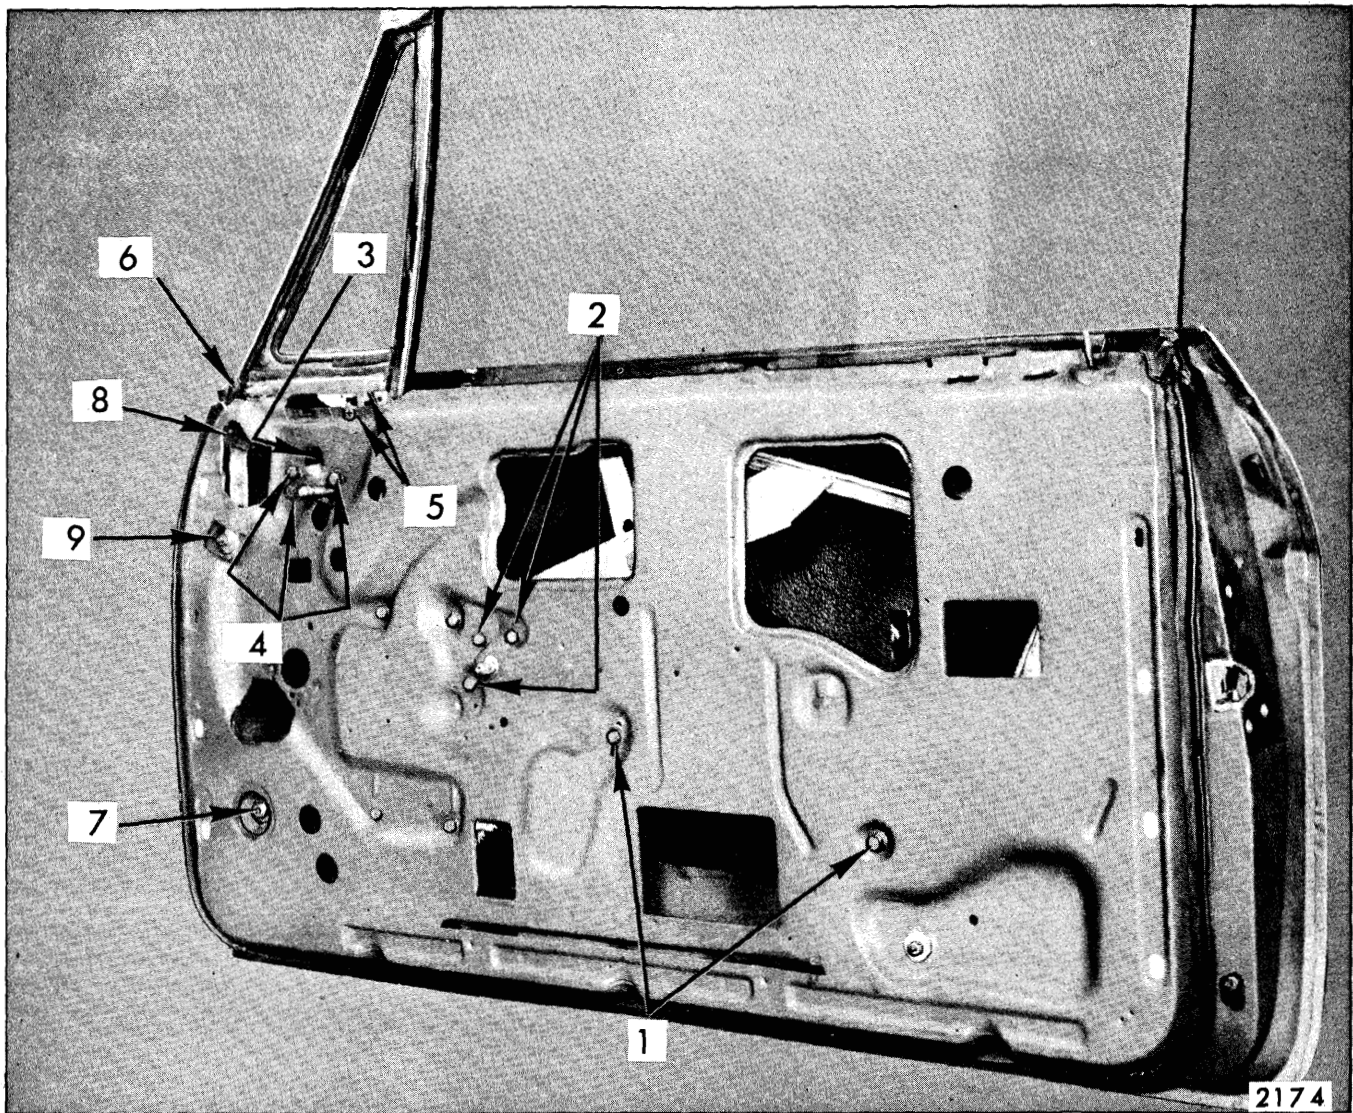

Fig. 7-59—Front Door Hardware Attachment - "B & C" Styles
3. Remove ventilator T-shaft attaching bolt "3" and ventilator regulator to inner panel attaching bolts "4" (Fig. 7-59).
2. Remove screws securing ventilator lower frame to door outer panel return flange and to door inner panel ("5", Fig. 7-59).
3. At front of ventilator assembly, break cement bond between door weatherstrip and ventilator assembly ("6", Fig. 7-59).
4. Remove ventilator division channel lower adjusting stud nut ("7", Fig. 7-59).
6. Remove ventilator lower frame attaching bolt "8" and ventilator lower frame adjusting stud nut "9" (Fig. 7-59).
- a. Remove ventilator lower frame to inner panel and ventilator lower frame to outer panel screws ("5", Fig. 7-59).